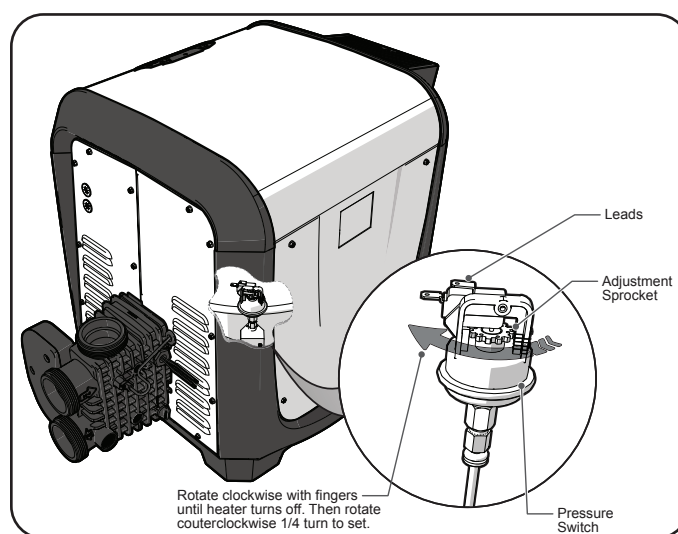

Figure 10. Water Pressure Switch Adjustment
- Remove the side panel to gain access to the water pressure switch. See *Figure 10*.
- Slowly turn the pressure switch adjustment sprocket counterclockwise one-quarter turn. The heater should come back on. See *Figure 10*.